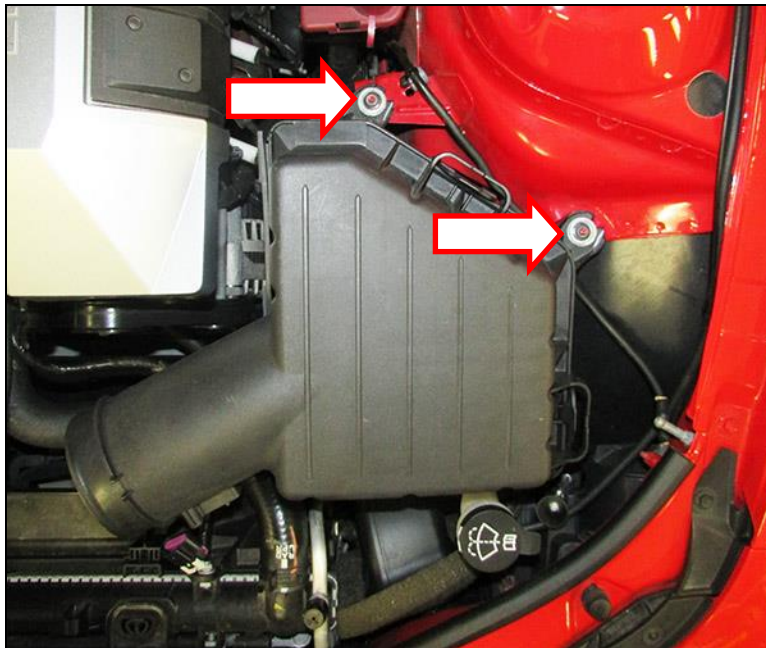

Figure 2
4. Remove the two nuts holding the air box in place and save as these will be reused (**Figure 2**).